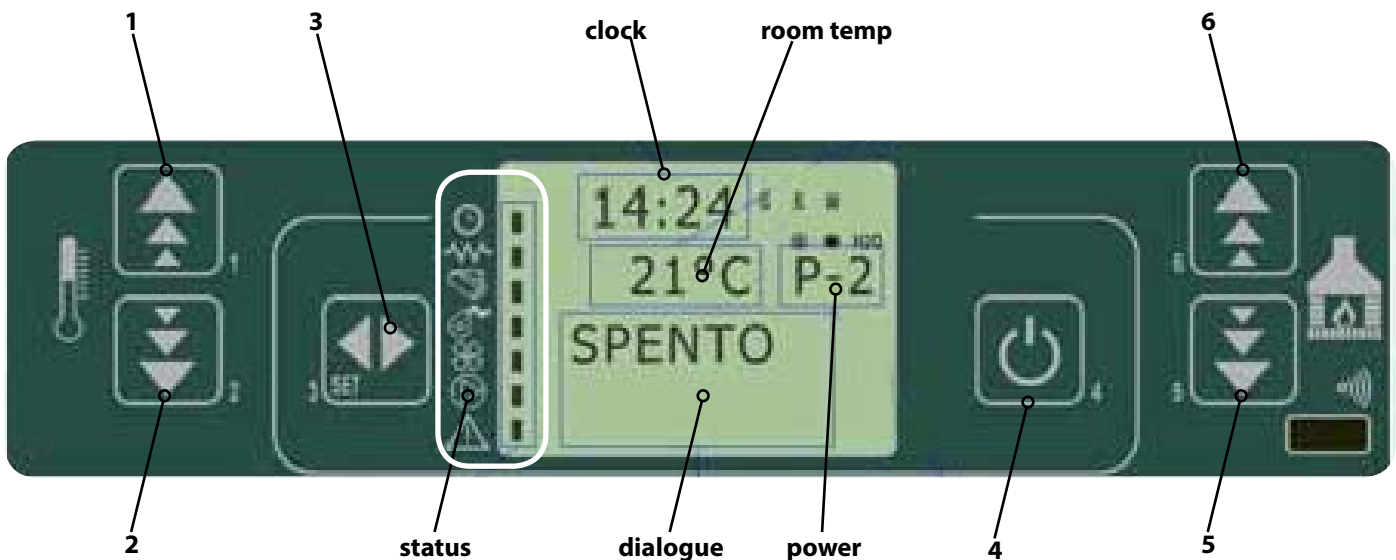

fig. 18a Description of buttons
This allows you to set the current time and date. The control panel is equipped with a lithium battery that allows for 3/5-year autonomous operation of the internal clock. To modify the values, from the **02 - Set Chrono** menu, using the (5) and (6) keys fig. 18a scroll the items until "02 - program day", choose the new values with the keys (1) and (2) fig. 18a, and confirm by pressing key (3) fig. 18a.
This allows you to select the dialogue language among those available. To modify the language, go to the menu **03 - Choose language**, using the keys (1) and (2) fig. 18a to scroll the items until you reach the desired language.
Activates the "STAND-BY" mode which switches off the stove after the room temperature has remained higher than the set value beyond the default time. When the stove switches off in this condition, it can only switch back on when the set temperature is lower than the room temperature for a determined amount of time. To modify the mode, go to the menu **04- Standby mode**, and use the keys (1) and (2) fig. 18a to activate it/deactivate it.
When set at "OFF" the acoustic signal is disabled. To modify the mode, go to the menu **05 - Buzzer**, and use the keys (1) and (2) fig. 18a to activate it/deactivate it.